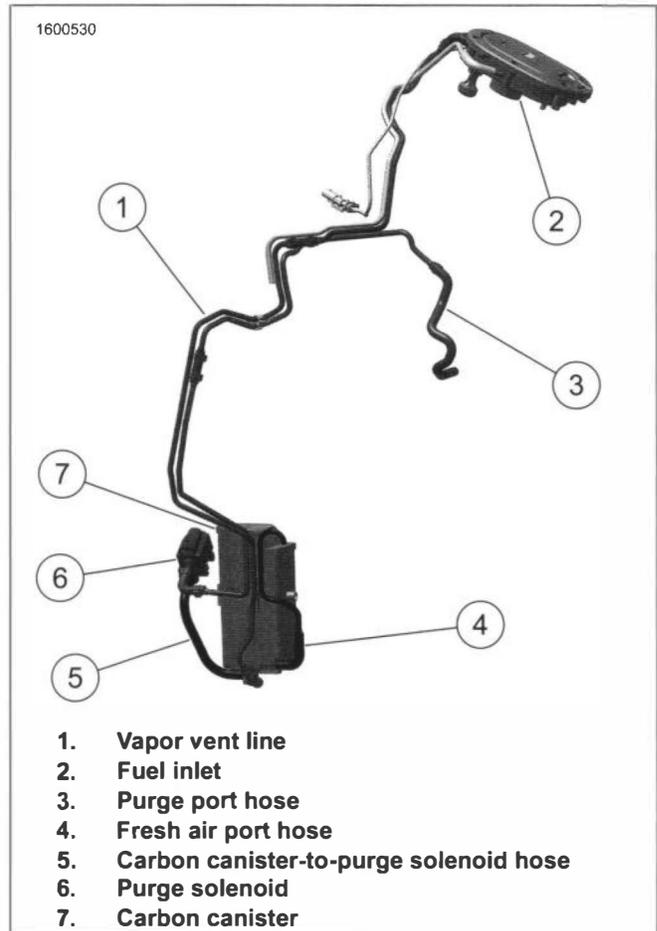

Figure 6-48. Evaporative Emissions System
1. See Figure 6-48. Make note of location of cable straps, double or triple clips and vapor vent line (1) routing.
1. See Figure 6-48. Route new vapor vent line (1) as previously noted.
1. See Figure 6-48. Make note of the location of any cable straps and double- or triple-clips securing purge port hose (3). Make note of hose routing.
2. Remove cable straps and clips to separate purge port hose from vapor vent line (1) and fresh air port hose (4).
1. See Figure 6-48. Position new purge port hose (3) according to routing previously noted.
3. Install ends of purge port hose onto fittings on purge solenoid (6) and purge port on front cylinder head with **new** clamps.
1. See Figure 6-48. Make note of the location of any cable straps and double- or triple-clips securing fresh air port hose (4). Make note of hose routing.
3. Remove end of fresh air port hose from fitting on carbon canister (7).
1. See Figure 6-48. Position new fresh air port hose (4) according to routing previously noted.
3. Install end of fresh air port hose onto carbon canister (7) fitting.
1. See Figure 6-48. Remove clamps from both ends of carbon canister-to-purge solenoid hose (5).
2. Remove carbon canister-to-purge solenoid hose from fittings on purge solenoid (6) and carbon canister (7).
1. See Figure 6-48. Install **new** carbon canister-to-purge solenoid hose (5) onto fittings on purge solenoid (6) and carbon canister (7) with **new** clamps.